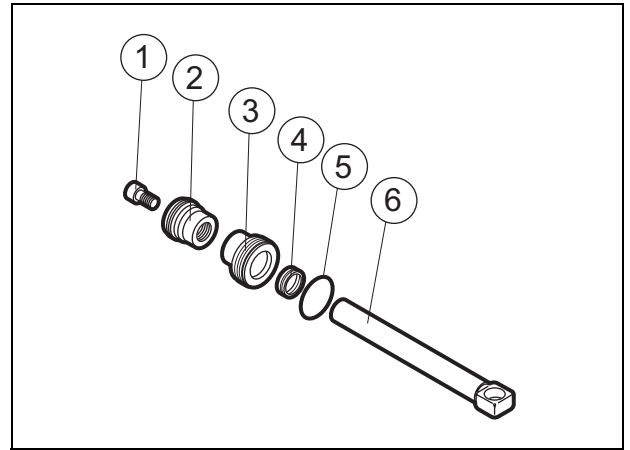
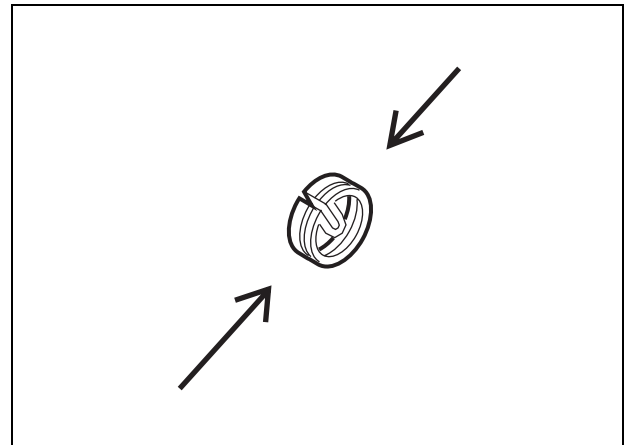

Fig. 53 Piston rod seals
Fig. 54 Compressing piston rod seal
1. Remove the piston (2) from piston rod (6) by loosening the bolt (1). W=14 mm. *See Fig. 53.*
2. Assemble the piston rod seals. *See Fig. 53.*
- 1 The piston rod seal (4) is made of two parts. Separate the yellow and brown seals.
- 2 Compress the "yellow" seal. *See Fig. 54.*
- 3 Assemble the yellow seal in the head (3) by hand or by using a blunt tool.
- 5 Replace the O-ring (5).